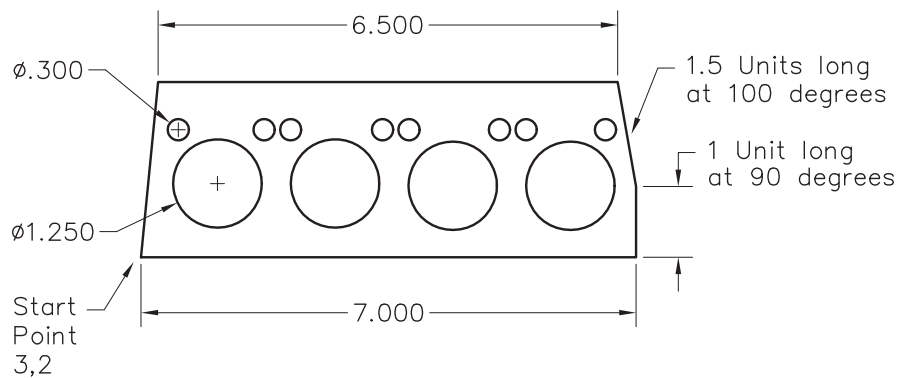

Fig. 7-9
3. Using the methods presented in the chapter, create the drawing of the gasket shown in Fig. 7-9. Don't worry about the exact locations of the holes, and don't dimension the drawing. However, do make the drawing precisely the size shown. The top and bottom edges of the gasket are perfectly horizontal. (You may need to enter **Z** and **A** to **ZOOM All**. This makes the gasket larger on the screen. You will learn more about **ZOOM All** later in the book.)